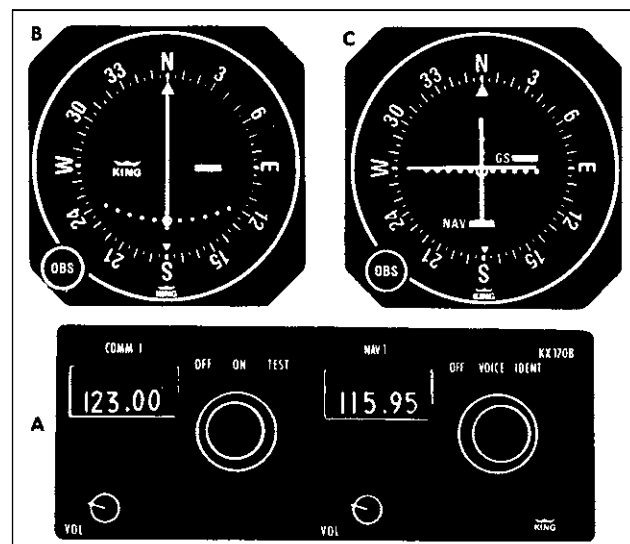

Figure 21-9. A NAV/COMM set (Courtesy of Bendix/King Radio Corp.)
Figure 21-9 is a COMM/NAV (communications and navigation) set. In the communications part of the equipment, you would set up the desired frequency that would allow you to transmit *and* receive.
In Figure 21-9, (B) is a VOR/LOC indicator and (C) is a VOR/LOC with a GS (glide slope) needle added. As a student pilot you will normally use only the vertical needle of this indicator. Note that this is COMM 1 and NAV 1, which would usually be the uppermost